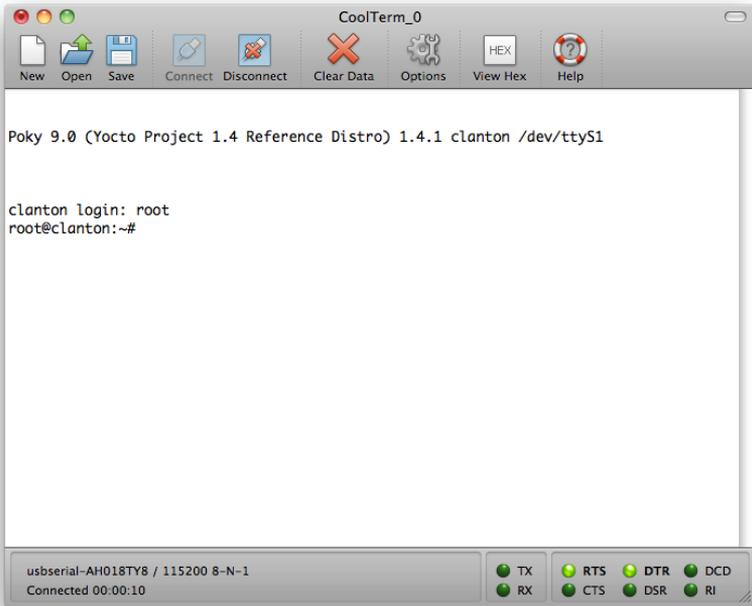

Figure H-4. *CoolTerm connected to Galileo and logged in*
15. Log in with the username root and press Enter (Figure H-4).